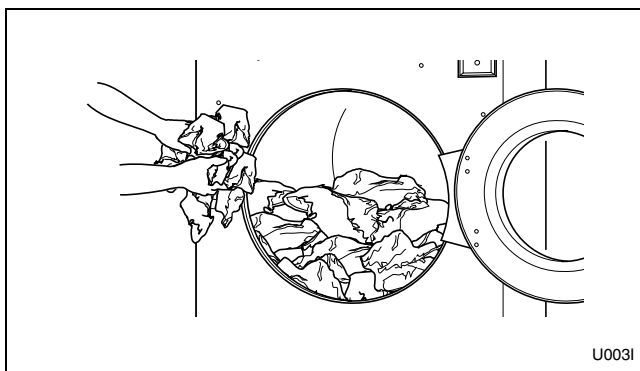

Figure 11
4. Load to capacity whenever possible. **DO NOT OVERLOAD.** Refer to *Figure 11*.